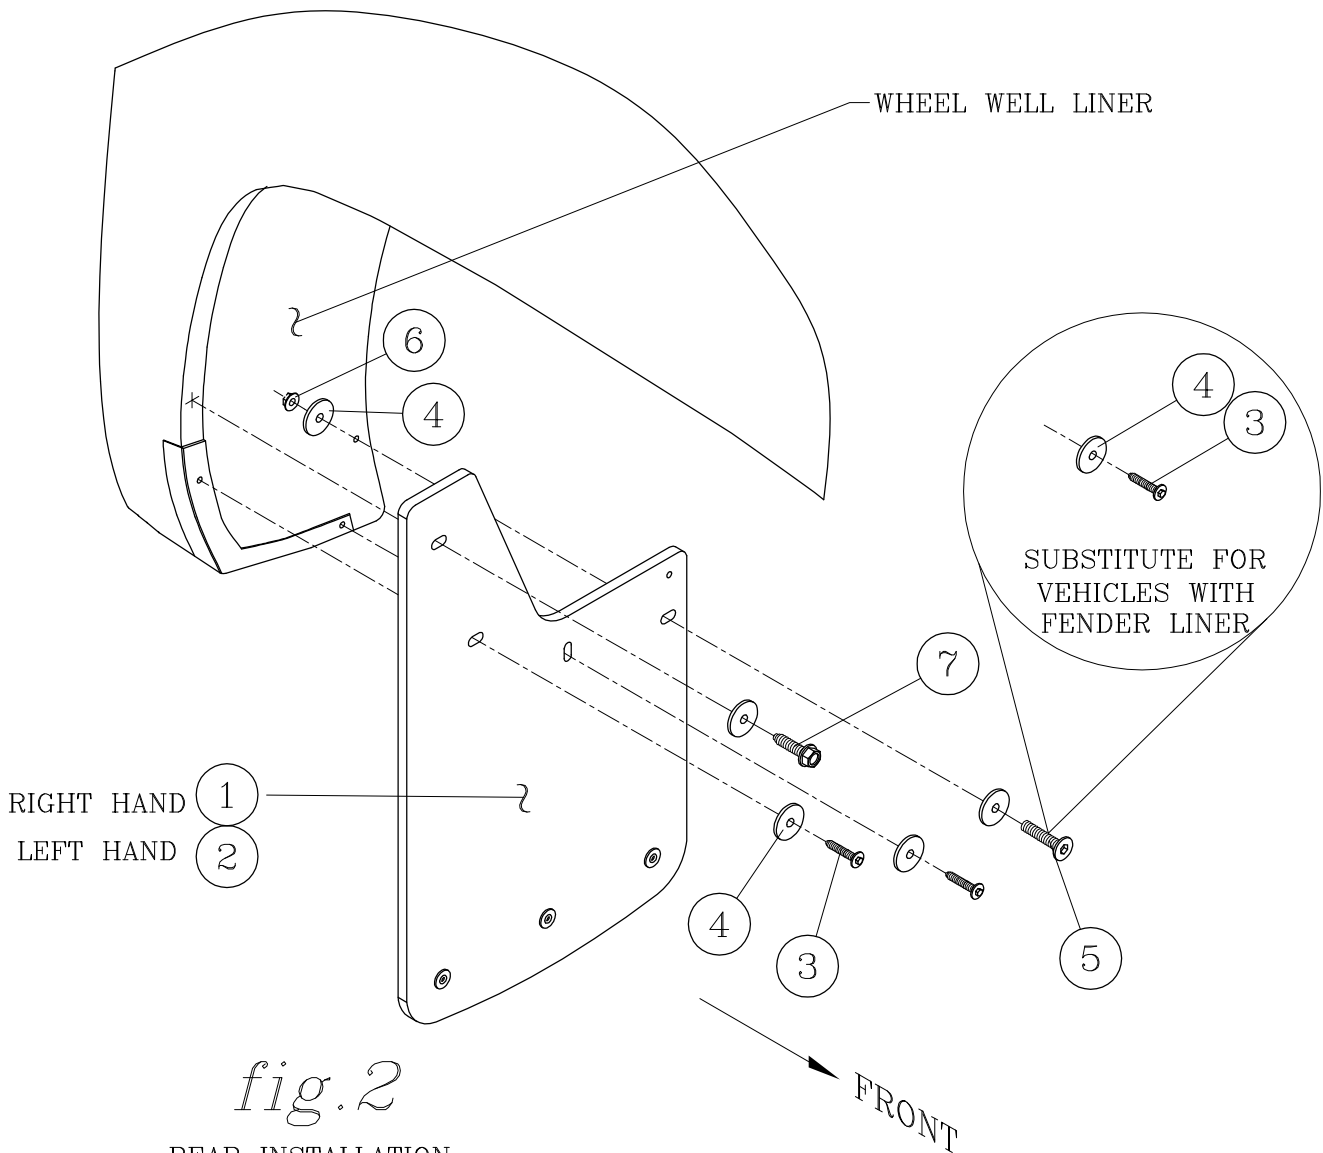

fig.2
- 3.1 REMOVE THE TWO FACTORY SCREWS THAT HOLD THE PLASTIC GUARD IN PLACE AND THE INNER FENDER LINER SCREW (FIG 2). **(THESE SCREWS ARE NOT REUSED, BUT THE PLASTIC GUARD WILL REMAIN).** **NOTE: IF THE VEHICLE HAS A FACTORY FENDER WELL LINER REMOVE THE INSIDE SCREW HOLDING THE FENDER LINER ON AS SHOWN IN FIG. 2.**
- 3.2 POSITION THE SPLASH GUARD AGAINST THE WHEEL WELL FLANGE AND INSTALL THREE HEX HEAD SEMS SCREWS WITH FENDER WASHERS (ITEMS #3, 4) THROUGH THE THREE LOWER HOLES AS SHOWN IN FIG. 2. AND TIGHTEN DOWN.